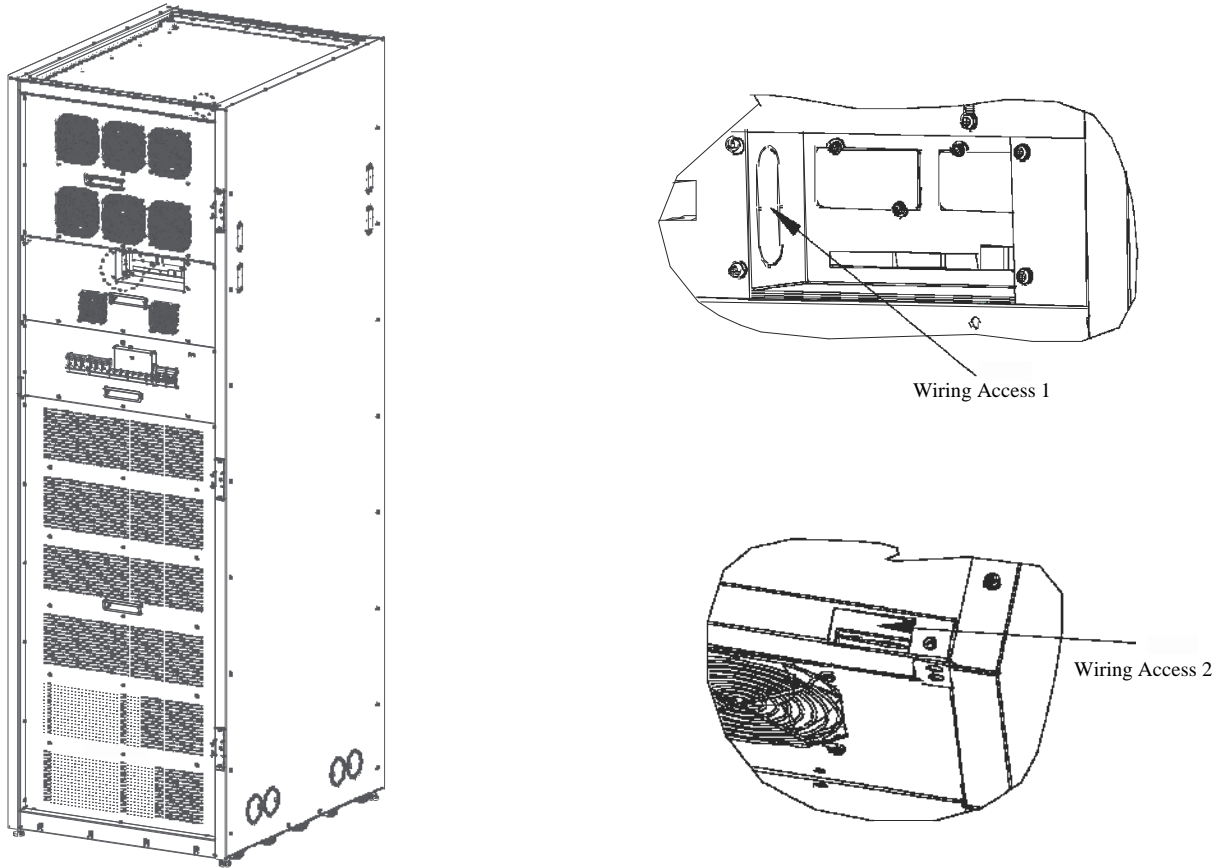

Figure 4-9. Interface Wiring Access
3. To locate the appropriate terminals and review the wiring and termination requirements, see paragraph 3.2.3, Table 4-2, Figure 4-5 to Figure 4-9.